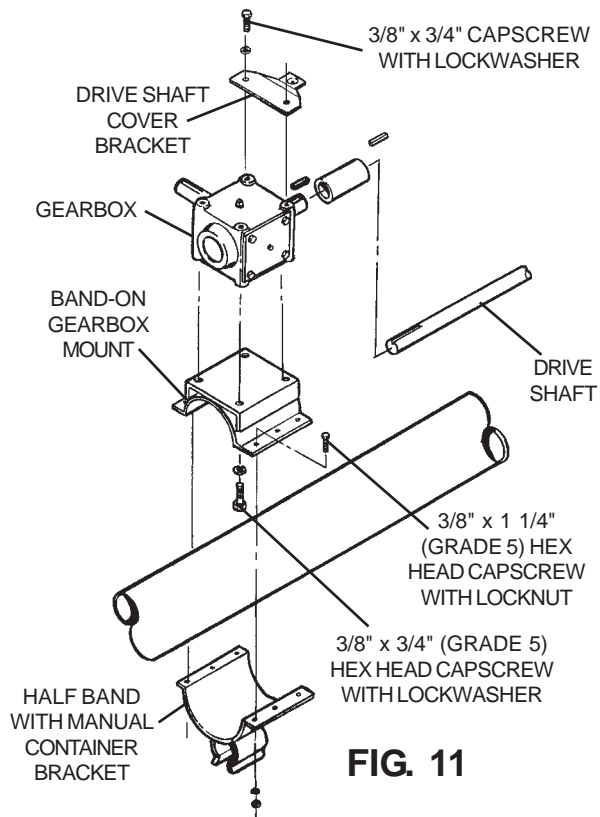

FIG. 11
Step 3. Set gearbox on auger and connect to drive shaft with coupler and two 1/4" x 1-1/2" long square keys. (See Fig. 11)